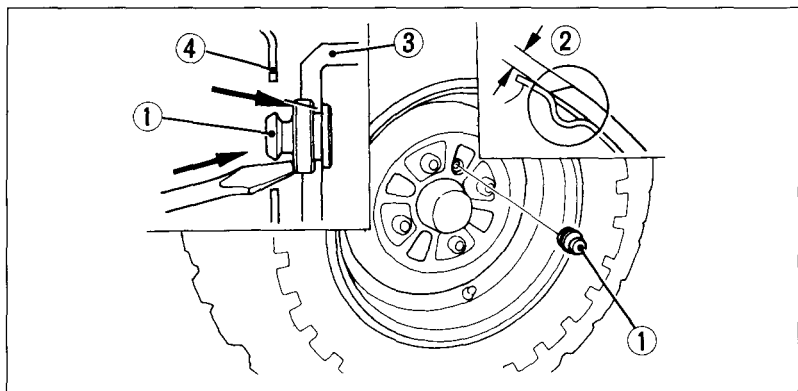
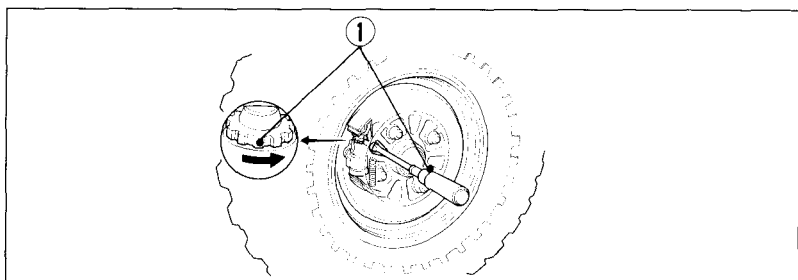

Fig. 4-24
Fig. 4-25
(1) Front brake lever
2. Remove the inspection hole plug (Fig. 4-24) and measure the lining thickness (2) on both front wheels.
3. If the brake lever free play and the brake shoe lining thicknesses are within the recommended limits, reinstall the inspection hole plugs, seating them into the inspection holes as shown in Fig. 4-24.
3. Beginning with either the left or right front wheel, remove the inspection hole plug (Fig. 4-24) and line up the hole with one of the brake adjusters (Fig. 4-25).
4. Using a screwdriver, direction of an arrow the brake shoe adjuster (1) until the front brake locks.
(1) Brake adjusters
7. Reinstall the inspection hole plug, seating it into the inspection hole as shown in Fig. 4-24.